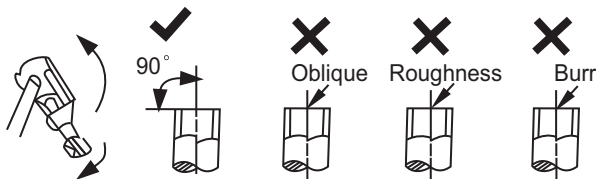

Fig. 24 — Pipe Cutting
- a. Cut the pipe, with a pipe cutter, at 90 degrees (see Fig. 24).